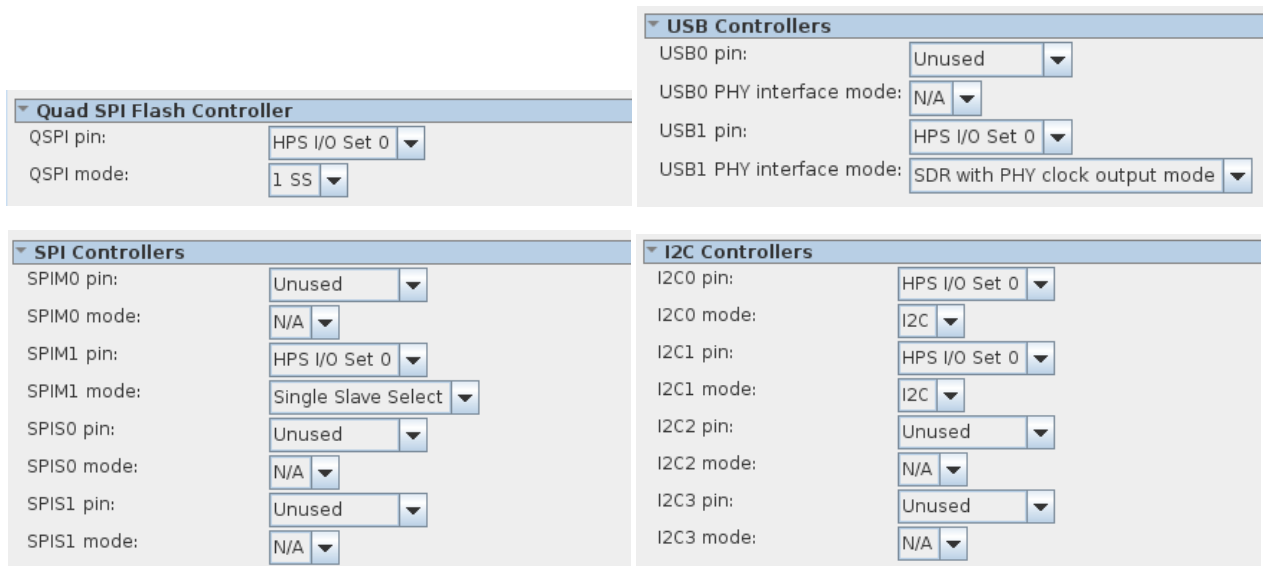

Figure 9-12. Quad SPI Flash, USB, SPI, and I²C peripheral pin configurations
- a. Configure the Quad SPI Flash controller, USB controllers, SPI controllers, and the I²C controllers as shown in Figure 9-12.